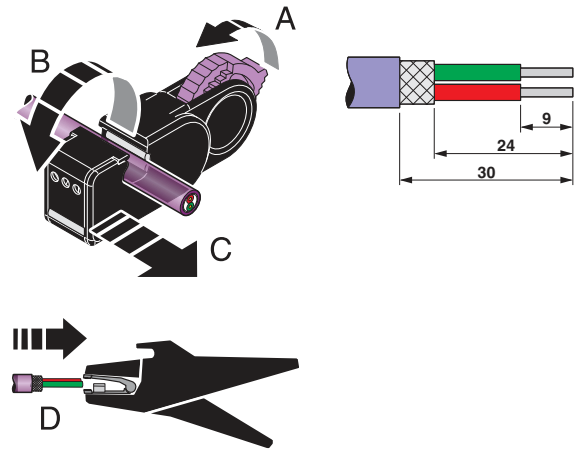

Figure 23 Stripping
- Strip off the conductors (see Figure 23).